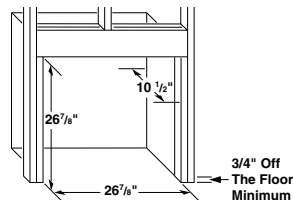
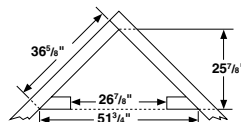

Figure 7 - Rough Opening for Installing in Wall
Figure 8 - Rough Opening for Installing in Corner
1. Frame in rough opening. Use dimensions shown in Figure 7 for the rough opening. If installing in a corner, use dimensions shown in Figure 8 for the rough opening. The height is 26 7/8" which is the same as the wall opening above.